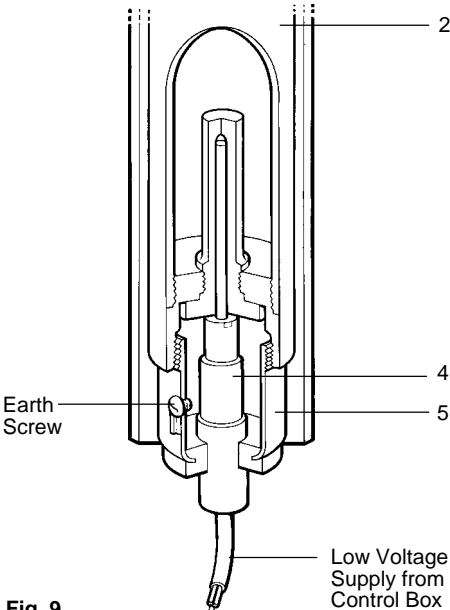

Fig. 9
Fig. 9 shows how a small electric heating element is incorporated in the outside sensor. This element is supplied with low voltage current from the control box during the night depression period and during the day the current is switched off altogether, allowing the sensor to control in normal fashion.
5.6. The heater element (4) is fitted into the base of the sensor (2) and is held in position by the screwed sleeve (5) in Fig. 9. The heater element is provided with approximately 1 m of twin core waterproof flexible cable which should be taken to a junction box fitted preferably inside the building. If fitted outside it must be properly waterproofed. From the junction box, these two wires should be connected to the terminals 0-5.5 in the control box using 1 mm or 1.5 mm 250 volt grade wire. The length of cable between the control box and the outside sensor should not exceed 50 m. Alternatively depression may be increased by connecting to the terminals 0.7 or decreased by connecting to the terminal 0-4.5. The terminals 8-10-12 must not be used when Type 6 Control Box is serving the 202 Control.